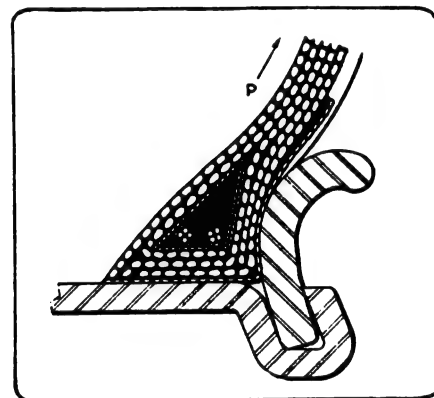

Fig. 7—Inextensible Wire-Cable Bead.
In Fig. 4 the side ring is cut in one place and can be removed by prying out with a screw driver. Figs. 5, 6 and 7 show enlarged details of three prominent types of straight-side beads. Each bead is made inextensible by an endless reinforcement of braided wire (Fig. 5), twisted wire (Fig. 6), and wire cables (Fig. 7).
In the type shown in Fig. 7 the fabric plies are tied under inextensible reinforcing wires; thus the side wall stresses (P) are transmitted from the carcass fabric to these circumferential wires. It will be seen that a strictly mechanical method is used to fasten the tire to the wheel in contrast to the soft-bead clincher method, which is analogous to the action of an elastic band. The inside diameter of the tire is slightly greater than the corresponding rim diameter (1/32 to 3/64 in.), which permits the tire to be applied and removed easily.